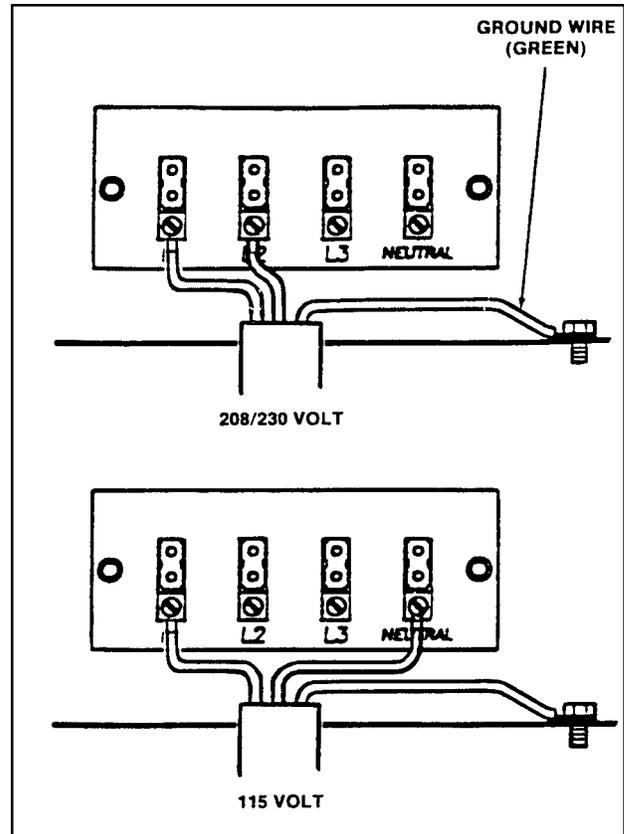

Figure 9. Power Cord Connection
- B. Disconnect the wires from the terminal block. Disconnect the green ground wire from the grounding stud. (Fig. 9).